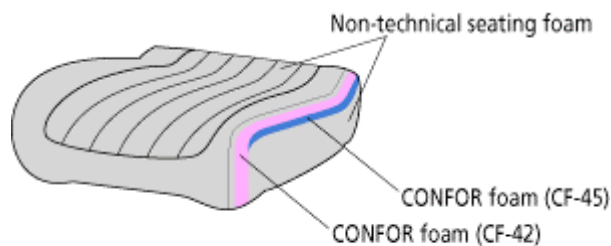

Figure 2: Example of Composite Ergonomic Cushion
With CONFOR foams, it is possible to achieve numerous ergonomic properties in a design that traditionally would require the use of multiple materials, some of them used in great quantity and at great cost, coupled with structural or mechanical elements. A relatively thin layer of CONFOR foam, used in combination with traditional high-resilience (HR) seating foams, can significantly and cost-effectively increase comfort levels in most applications.(See Figure 2.)